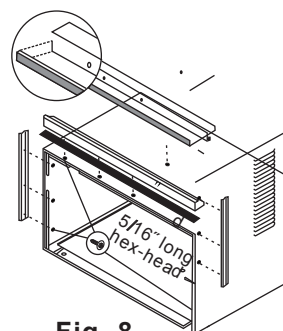

Fig. 8
2. Install top angle and side retainers to cabinet. (See Fig. 8.)
5. Screw or nail cabinet wooden frame using shims, if frame is oversized, to eliminate distortion. (See Fig. 8.) Remember to maintain proper slope as described in Step 3.